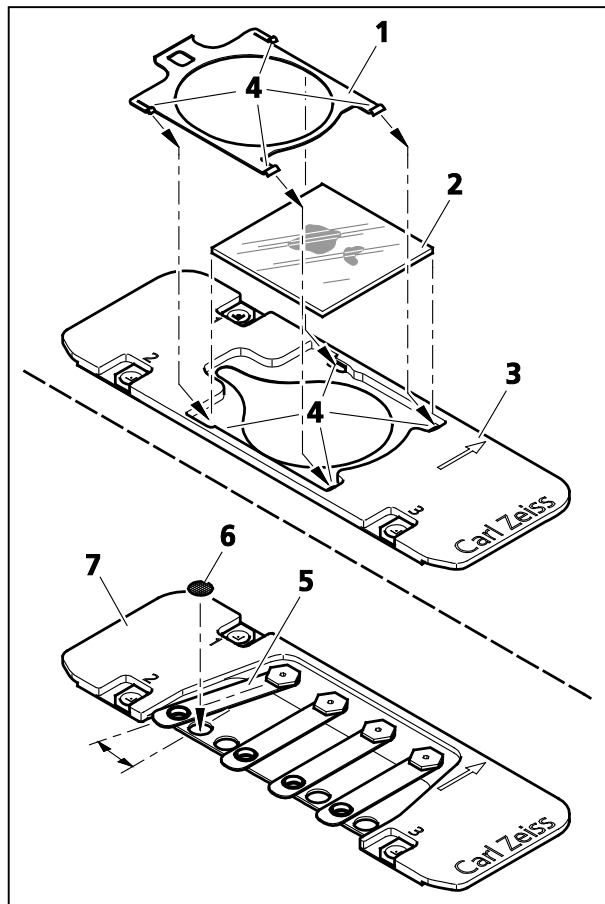

Fig. 177 Mounting of cover glasses or TEM grids
- Remove the clamping frame (Fig. 177/1) using tweezers.
- Insert the cover glass (Fig. 177/2) in the sample holder (Fig. 177/3).
- Slide in the clamping frame into the sample holder until the clamps are clicking into place (Fig. 177/4).
- Lift the spring (Fig. 177/5) of the appropriate position and turn it side wards.
- Insert the TEM grid (Fig. 177/6) into the provided holding spot of the holder (Fig. 177/7) and fix it with the spring.